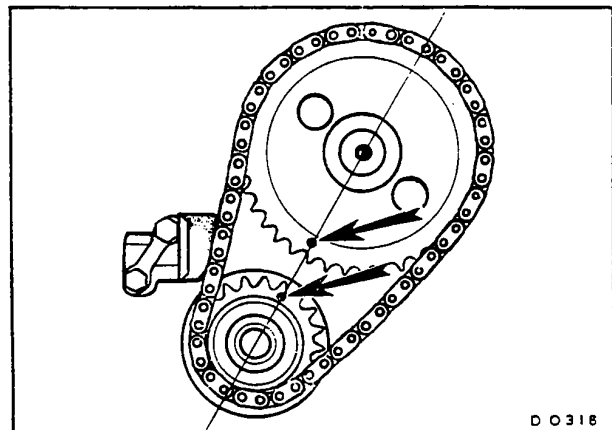

Fig. 1
- e. Assemble the chain and chain wheels with the timing marks as shown in Fig. 1.